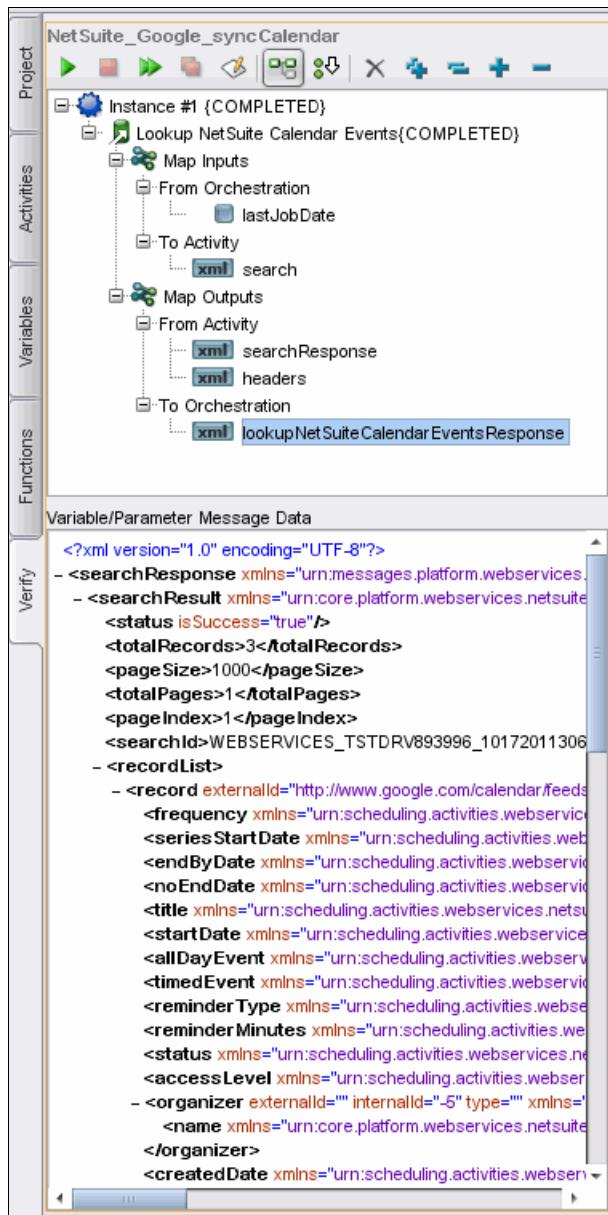

Figure 11-27 Studio Verify showing data for a variable
- Click the last entry, **lookupNetSuiteCalendarEventsResponse**. In the Variable/Parameter Message Data pane at the bottom, you can now see the data retrieved from NetSuite as an XML document. Refer to Figure 11-27.